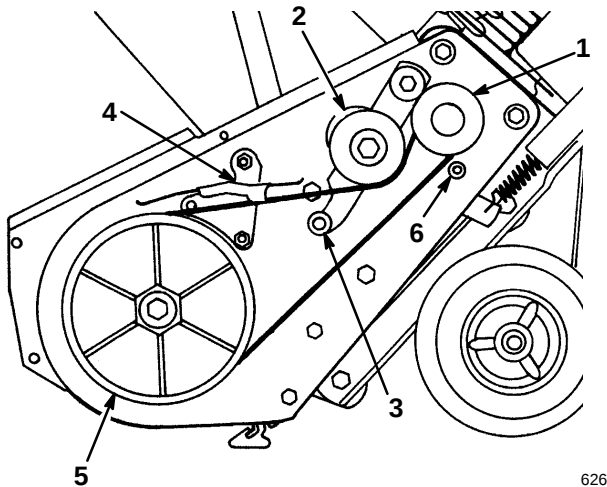

Figure 18
3. Push down on the idler pulley and remove the drive belt from the rotor pulley, the brake arm assembly, and the engine pulley (Fig. 18).
4. Loop the new drive belt around the engine pulley, under the idler pulley, over the roller, through the brake assembly, and around the rotor pulley (Fig. 18).
IMPORTANT: The drive belt must be on top of the roller as shown in Figure 18.